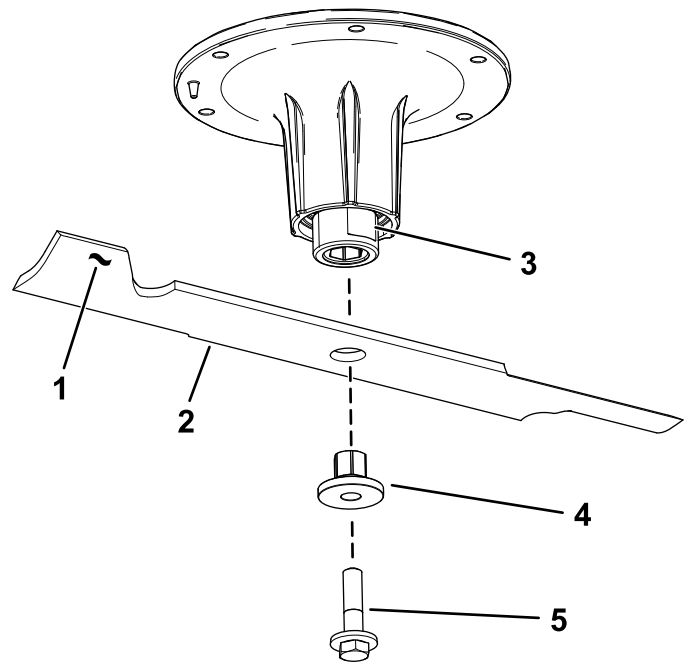

Figure 105
2. Remove the blade bolt, bushing, and blade from the spindle shaft (Figure 105).